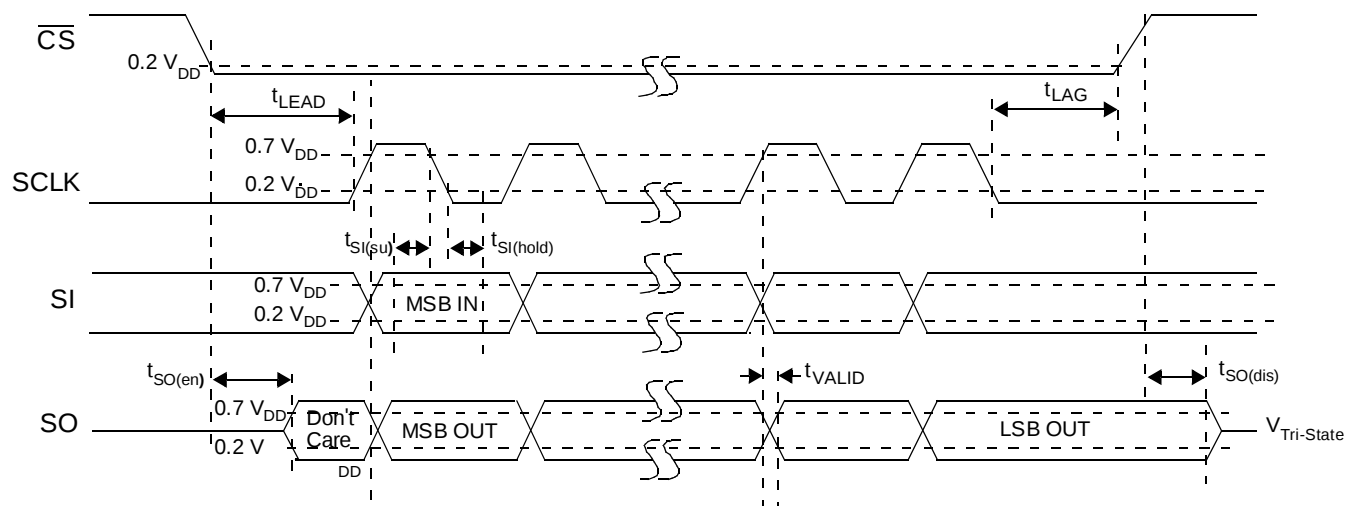

Figure 4. SPI Timing Characteristics
The Serial Input (SI) pin is used to enter one of seven serial instructions into the 33999. SI SPI bits are latched into the Input Shift register on each falling edge of SCLK. The Shift register is full after 24 bits of information are entered. The 33999 operates on the command word on the rising edge of $\overline{CS}$. To preserve data integrity, exercise care to not transition SI as the SCLK transitions from high-to-low state (see Figure 4, page 8).